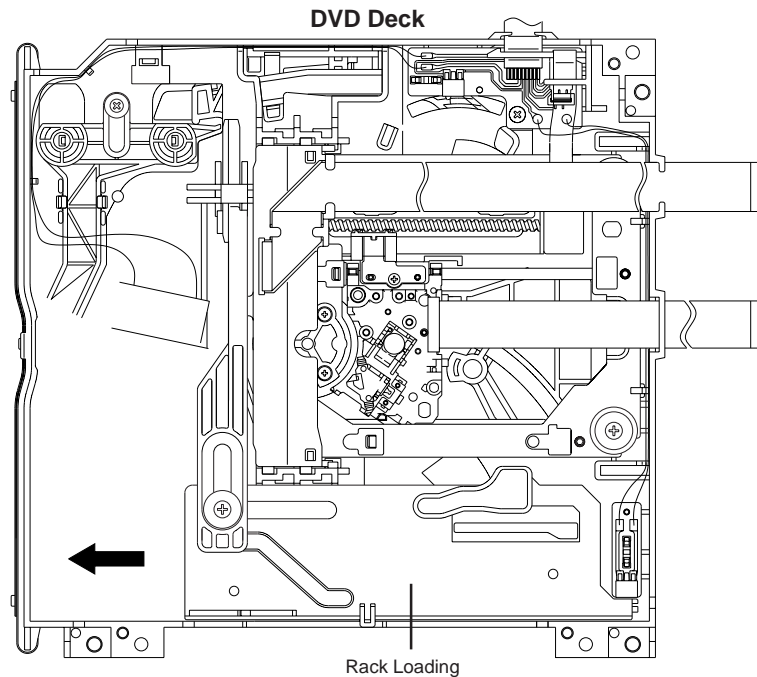

Fig. 1
1. Remove the Back Cabinet. (Refer to item 1 of the DISASSEMBLY INSTRUCTIONS.)
2. Slide the Rack Loading toward the arrow direction by hand to release the lock. (Refer to Fig. 1)